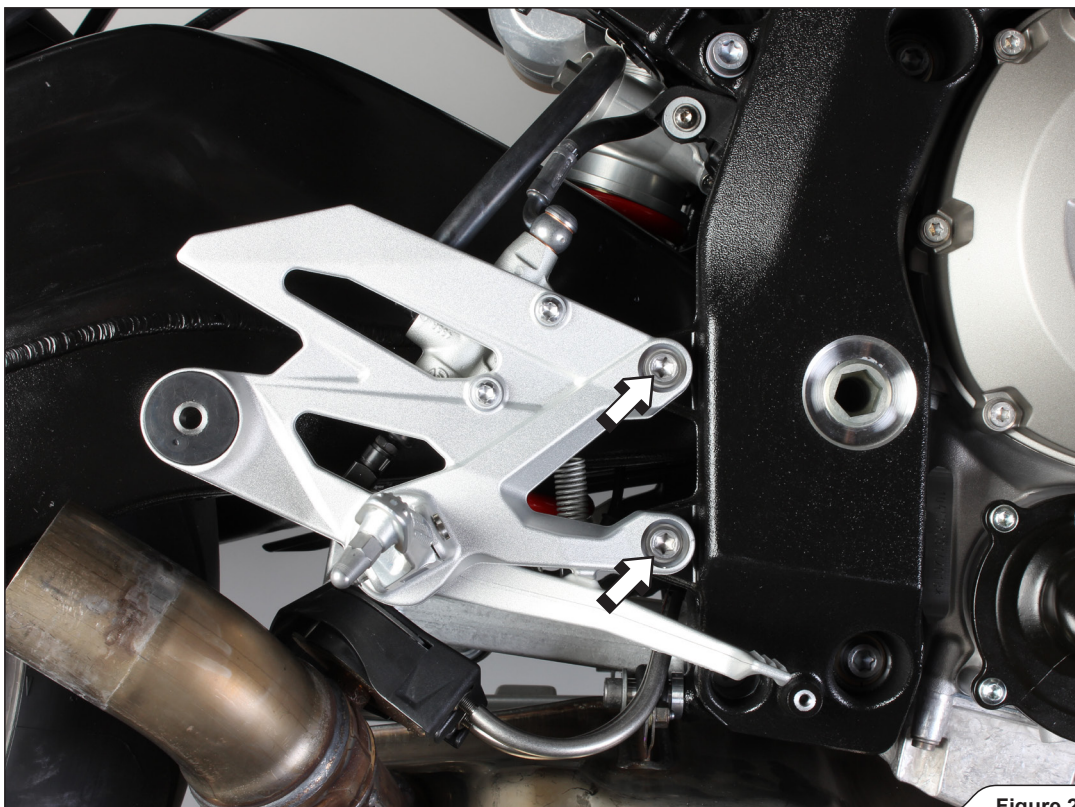

Figure 2
3. Unscrew the right foot peg and move it out of the way (**Figure 2**).